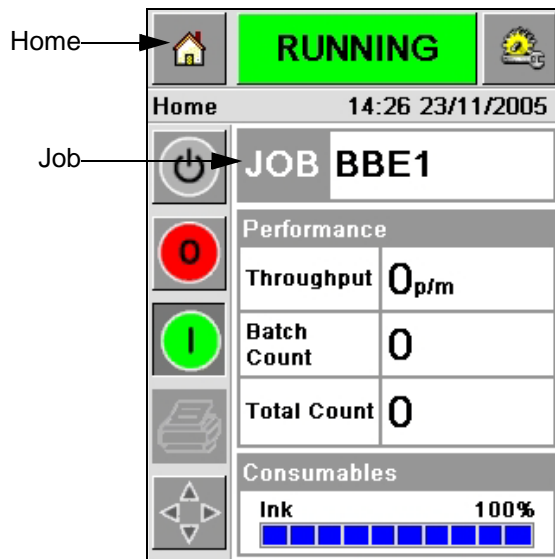

Figure 5-1: Job Icon
- 1 Touch the *Job* icon (Figure 5-1).